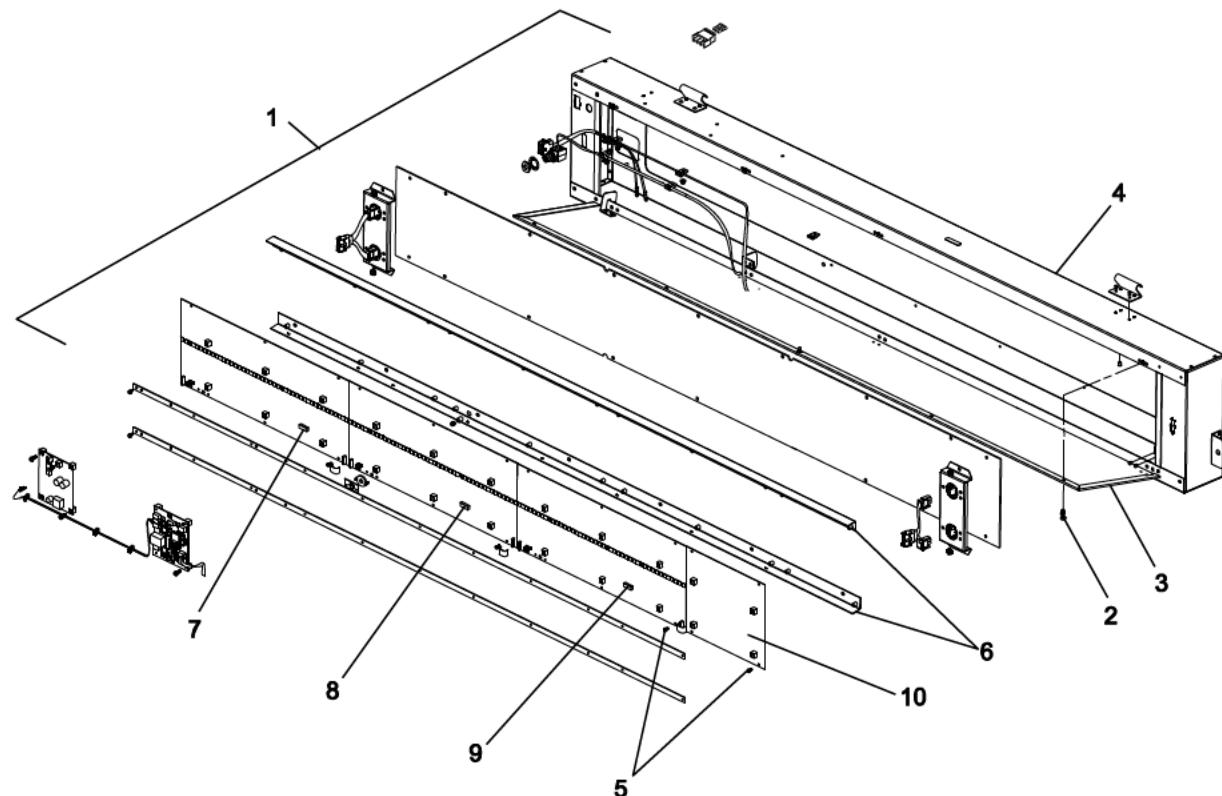

Figure 8-21: Replace Front Destination Sign LED Display Matrix PCB
1. Remove front destination sign assembly (1, Figure 8-21) from its mounted location.
2. Remove ten 6-32 x 5/16 SEM screws (2) that secure backplate assembly (3) to front panel assembly (4).
3. Carefully separate backplate assembly (3) from front panel assembly (4) to access electrical wiring and harnesses.
5. Remove 6-32 x 5/16 SEM screws (5) that secure the defective LED Display Matrix PCB (7, 8, 9, or 10) to the bracket assembly (6). There are six screws on each destination matrix and four on the route code matrix.
7. Install the replacement LED Display Matrix PCB using the 6-32 x 5/16 SEM screws (5) that were removed previously.
8. Verify that the DIP switch setting on the first LED Display Matrix (7) is: